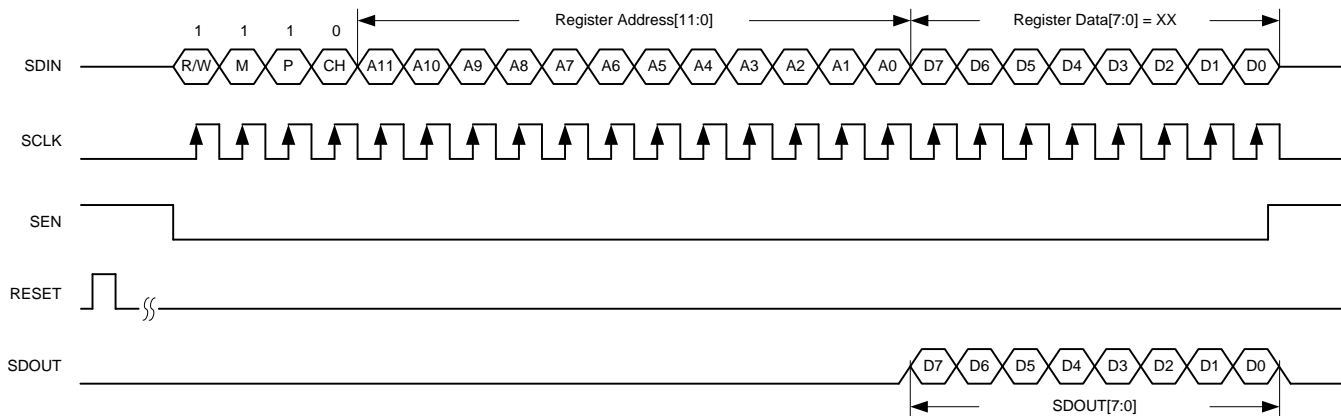

Figure 73. JESD Serial Register Read Timing Diagram
4. Reading back the register content on the SDO pin; see Figure 73. When a page is selected, multiple read backs from the same page can be done.